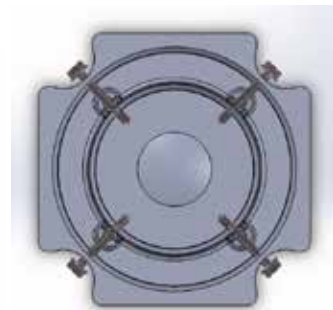

Figure 2.3
Attach bushing to internal support using four (4) 1-1/2" #12 hex-head self-drilling screws placed in the corners of the bushing. See Figure 2.3.